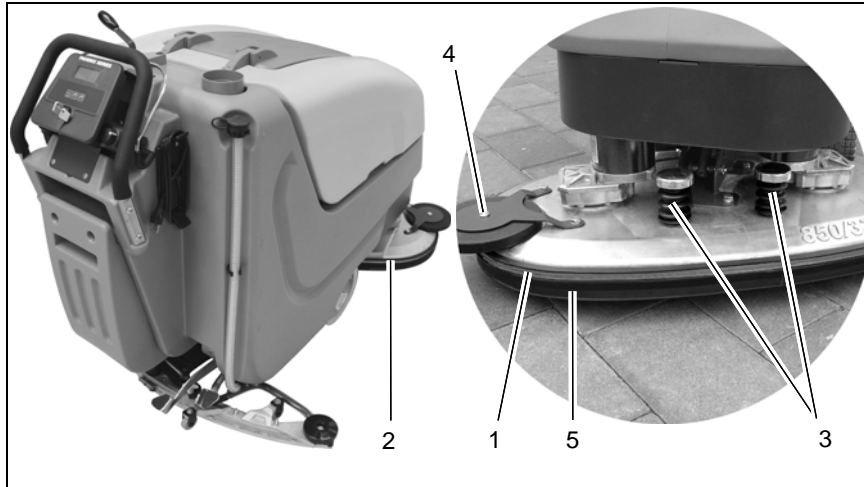

Fig.10
Clean brushes of the brush deck (Fig. 10/2) at daily intervals or as required. Press brush ejectors (Fig. 10/3) down to remove brushes for cleaning.
1. Press brush ejectors (Fig. 10/3) down to remove old brushes.
Check deflector roller (Fig. 10/4) at weekly intervals or replace as required.
Check sealing strip (Fig. 10/5) at weekly intervals or as required. Before doing so, open toggle-type fastener (Fig. 10/1) and remove sealing strip. Proceed to mounting in inverse order.